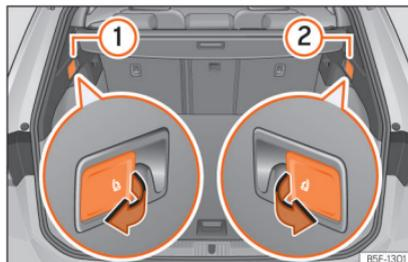

Fig. 119 In the luggage compartment: levers to unlock the rear backrest.
- Pull the remote release lever of the left part **»» Fig. 119 ①** or right part **②** of the backrest in the direction of the arrow. The released part of the rear seat backrest is folded automatically down and forwards.